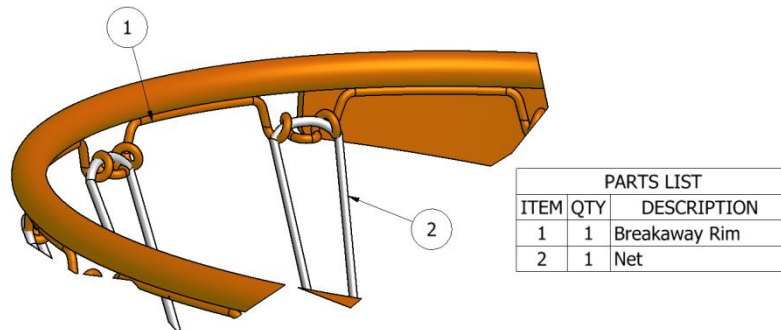

Figure 5-3: Net installation, UBG-500F (not shown), GBA-34A, GBA-542 & GBA-548 ONLY.
1. Install the net by wrapping the long loops in the net into the pigtails or NetLocks (Figure 5-3).